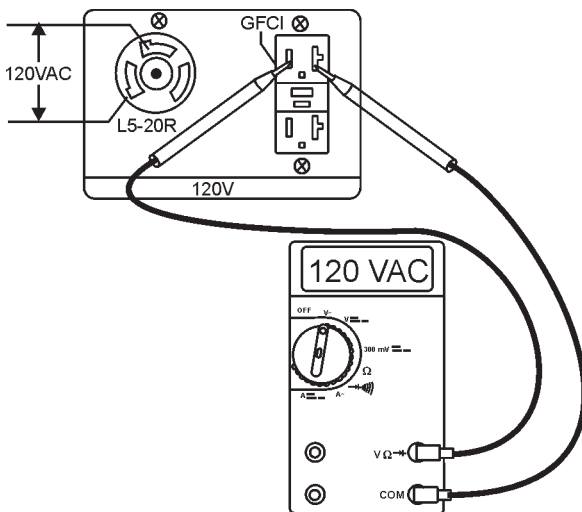

Figure 15. 120 VAC GFCI Receptacle
- If desired, verify with a voltmeter (Figure 15) that 120 VAC is present at the GFCI duplex receptacle and the 120V twist-lock receptacle.